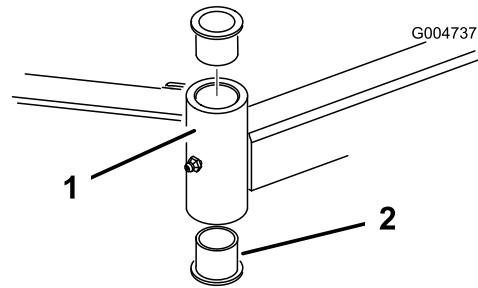

Figure 78
4. Insert a pin punch into the top or bottom of the mounting tube and drive the bushing out of the tube (Figure 78). Also drive the other bushing out of the tube. Clean the inside of the tubes to remove dirt.